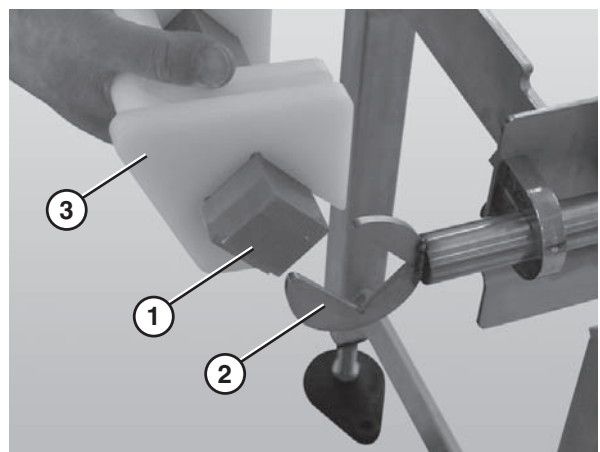

Figure 67
4. After all tracking pucks (**Figure 67, item 3**) are installed, slide the nose bar drive or transfer post (**Figure 67, item 1**) into of the nose bar drive weldment or idler hands (**Figure 67, item 2**).